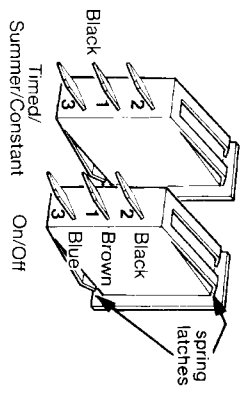

Fig. 35
8.19.31 Replace electrical connections. Refer to fig. 35 to ensure correct locations of switch wires.
Refer to fig 35
8.19.34 To replace refer to fig 35 to ensure switch is in correct attitude and press into hole from the front until spring tabs latch. Refer to fig 35 for correct wiring details.